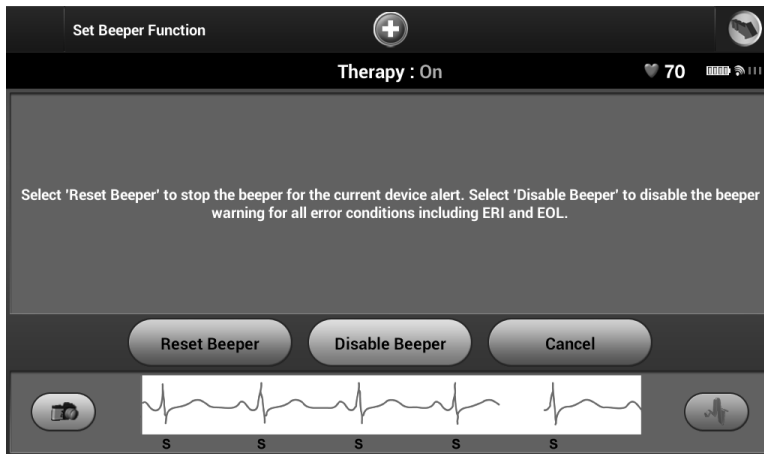

Figure 44: *Resetting the Beeper*
4. Select the Reset Beeper button to suspend audible beeping tones triggered by an alert condition (Figure 44). If the alert condition is not corrected, the audible beeping tones will be reactivated during the next automatic S-ICD System self-check.